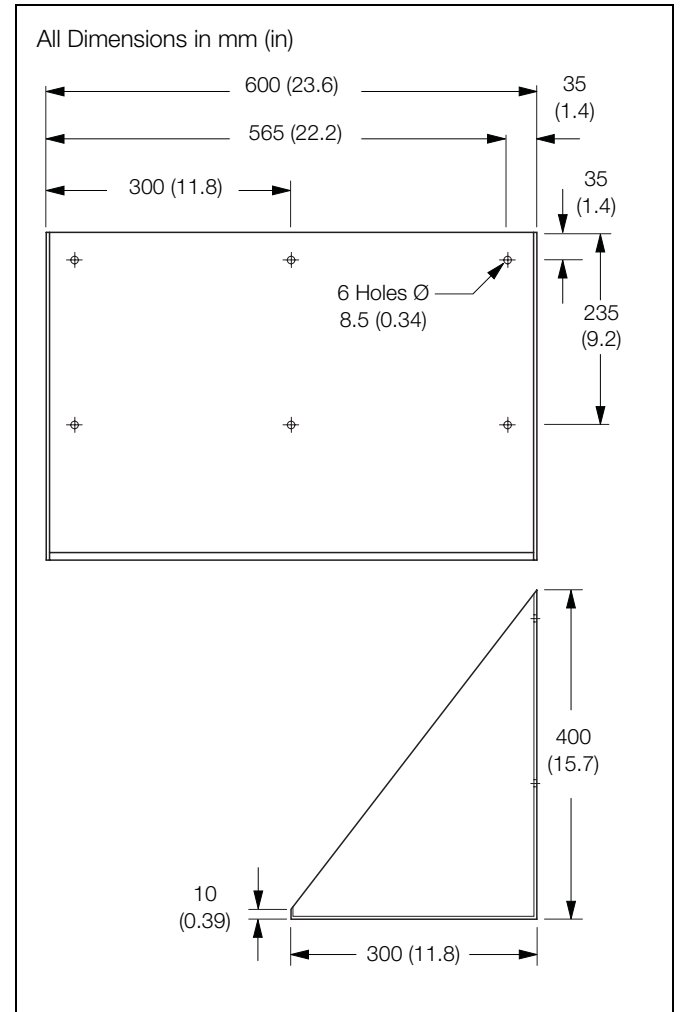

Fig. 3.3 Reagent Mounting Tray (Option)
1. Mark the wall using the dimensions shown in Fig. 3.3.